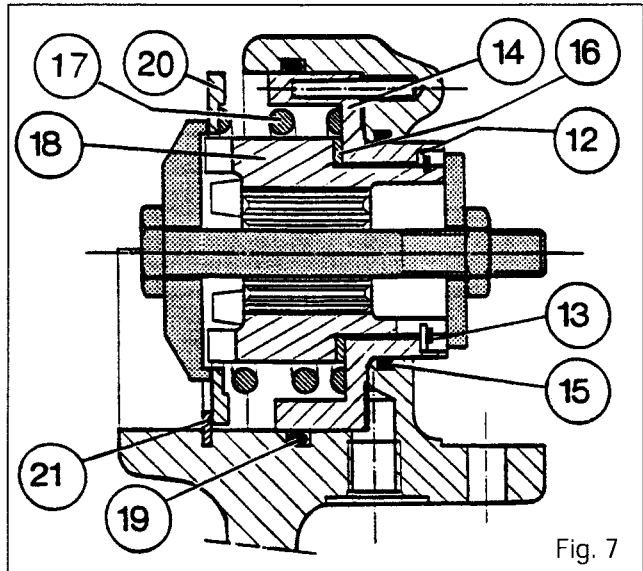

Fig. 7
**Front axle - Differential****E. Removing the differential lock (Fig. 7)**
21. Using tool MF471 (see Part M) correctly centred, compress the spring (17) until the supporting washer (21) is freed.
22. Remove the washer (21).
23. Gradually release the spring (17).
25. Remove the guide washer (20) from the spring.
26. Remove the spring (17).
27. Disassemble the retaining ring (13) from the dog tooth coupler (18).
28. Remove the coupler (18), the friction washer (16) and the tab washer (12).
29. Remove the piston (14).
30. Remove the O-rings (15) and (19).